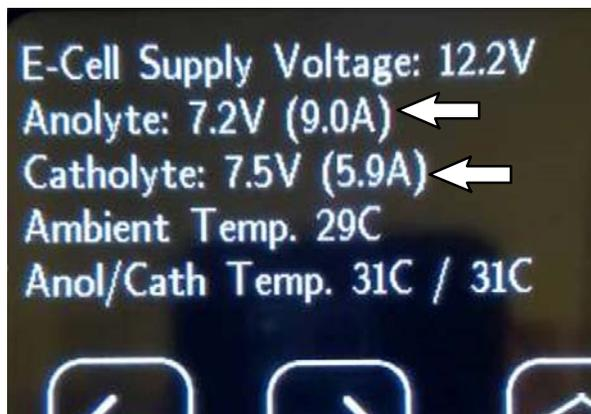

FIG. 7
A. Anolyte: Voltage / Amperage (Fig. 7)
B. Catholyte: Voltage / Amperage (Fig. 7)